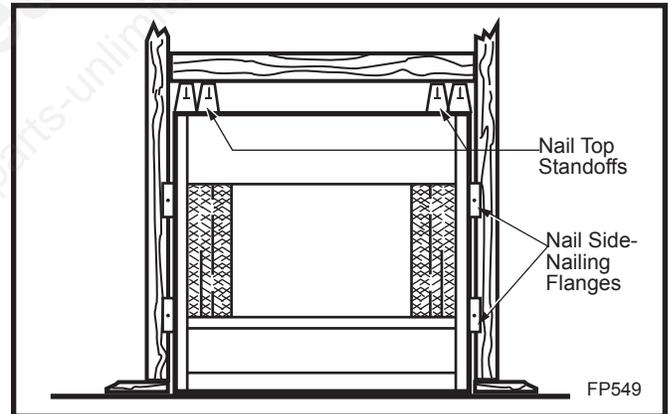

Fig. 4 Adjustable drywall strip (nailing flange).
2. Four (4) nailing flanges are supplied with the fireplace (found on the fireplace hearth). To level the box and secure it firmly in place, remove the nailing flanges from the hearth and install at the sides of the fireplace as shown in Figure 4.